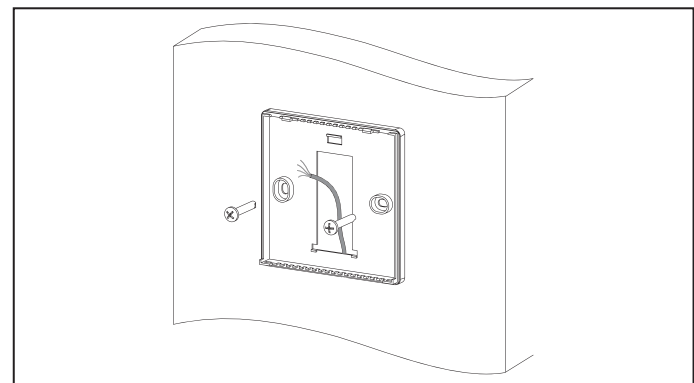

Fig. 5. Control panel back cover mounting to the wall
□ Fix the control panel back cover to the wall, fig. 5.